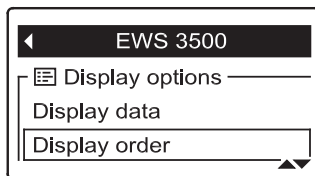

FIG. 120
3. Press the DOWN (▼) button to scroll through the menu options until **Display order** is highlighted in a box (See Figure 120).
9. To move another item, return to Step 5. When finished moving items, press the LEFT (◀) button. The display will go back to the device menu (Figure 120).